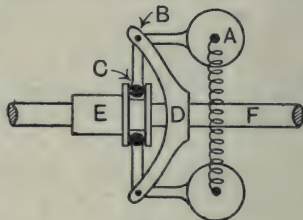

Fig. 86.
**10.** In the shaft governor, shewn diagrammatically in fig. 86, the ball levers are pivoted to a piece **D** which is fixed to the shaft **F**. For the position shewn, the pull in the springs connecting the balls is 150 lbs., and there is a force on the sleeve along the axis of the shaft equal to 115 lbs. In addition to this there is a maximum axial force on the sleeve due to friction of 10 lbs., which may act in either direction. Find the two extreme speeds at which the shaft may run without the sleeve of the governor moving along it. The length of **AB** is 6 inches; the length of **BC** is  $3\frac{3}{4}$  inches; the balls are 12 inches apart and each weighs 15 lbs.